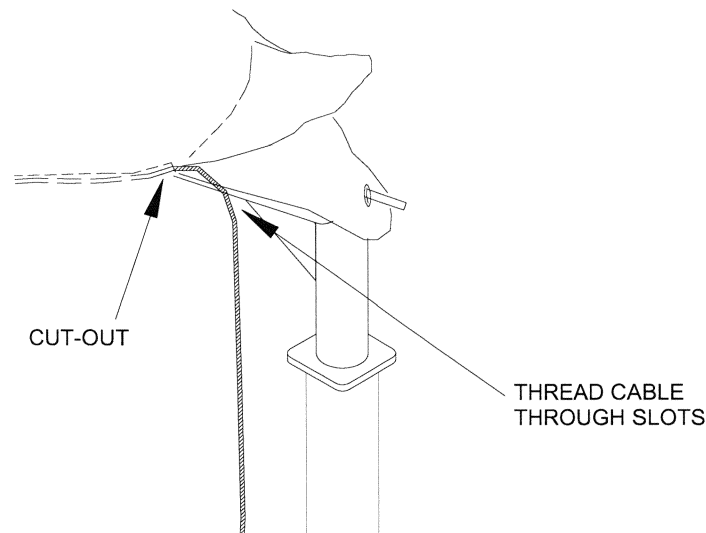

Figure 23
6. After the cloth has been secured by the pin on all four corners, starting at one corner, preferably the back of the unit, thread the steel cable through the channel at the perimeter of the cloth. The steel cable must exit the cloth at each corner and be reinserted in the cut-out provided, until the whole unit has been encircled. Figure 23, 24.